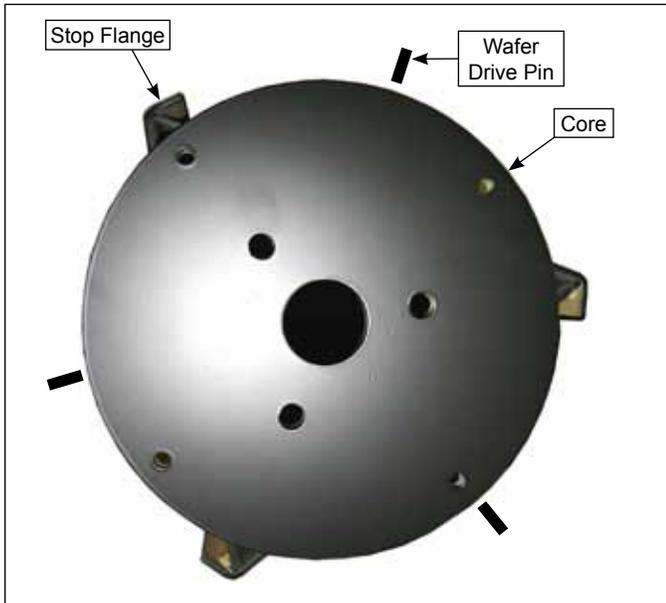

Figure 5
- a. Note the location of the drive pin on the inside ring of each brush wafer. Position each wafer so its drive pin is positioned between the stop flanges. Rotate each subsequent wafer before installing so the position of its pin is staggered on the core by one stop flange. See Figure 5.